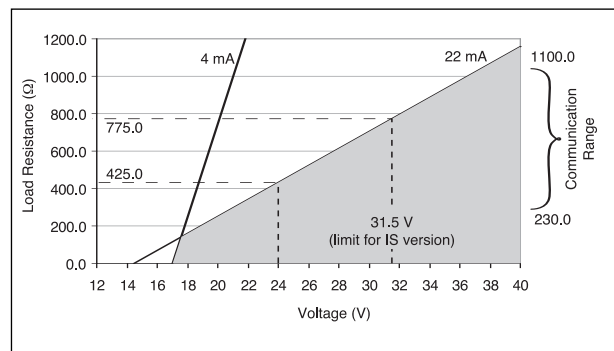

Fig.2 HART® minimum terminal voltage at the PH202
- Signal** : Maximum load 425 Ω . (see fig. 2)